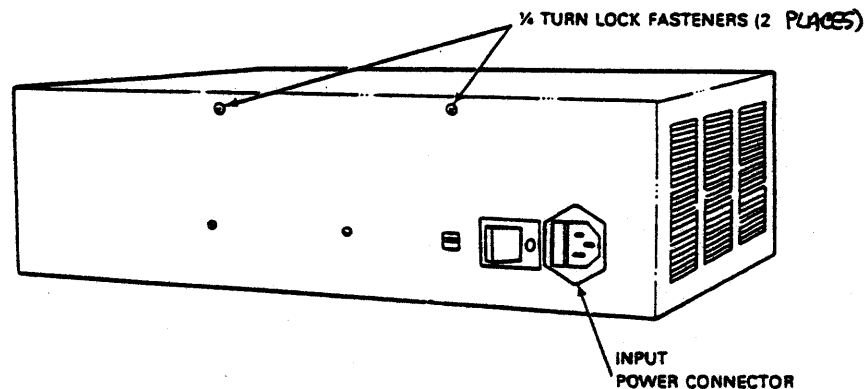

Figure 4-17 1\4 Turn Lock Fasteners
3. Loosen the two (2) 1\4 turn phillips head lock fasteners on the H3014 distribution panel (Refer to Figure 4-17).
2. Disconnect the input power cable from the H3014 power receptacle (Figure 4-17).
3. Loosen the two 1/4 turn phillips head lock fasteners on the H3014 distribution panel (Refer to Figure 4-17).
3. Loosen the two 1/4 turn lock phillips head fasteners on the H3014 distribution panel (Refer to Figure 4-17).
2. Loosen the two 1/4 turn lock phillips head fasteners on the H3014 distribution panel (refer to Figure 4-17).